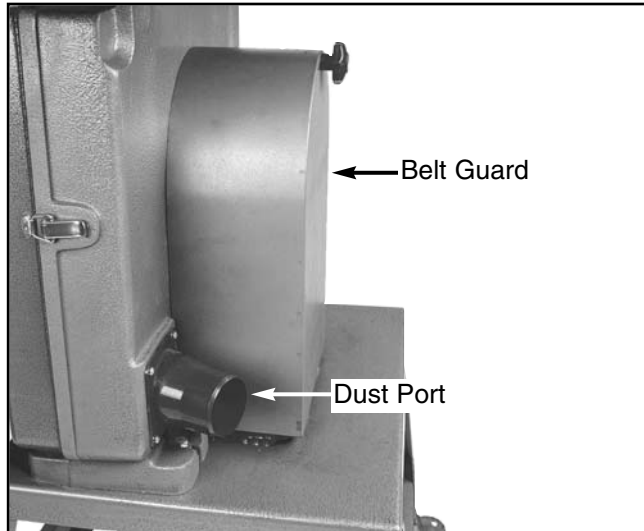

Figure 15. Belt guard and dust port mounted correctly on bandsaw.
Place the belt guard over the step pulley and secure it, as shown in **Figure 15**, to the stand using the $\frac{1}{4}$ "-20 x $\frac{1}{2}$ " hex head bolts, washers, and nuts provided. Fasten the guard to the band-saw by inserting the threaded rod through to the body casting and tightening the knob.
1. Remove the four dust port mounting screws from the bandsaw body and position the dust port as shown in **Figure 15**.